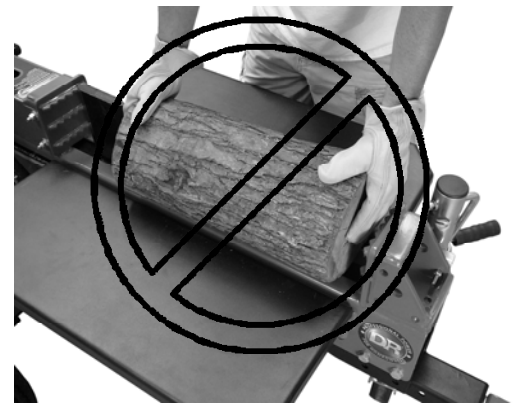

Figure 28
- Do not place your hands on the ends of the log when loading the Log Splitter. This is a very UNSAFE method and could result in injury to your hands (*Figure 28*).